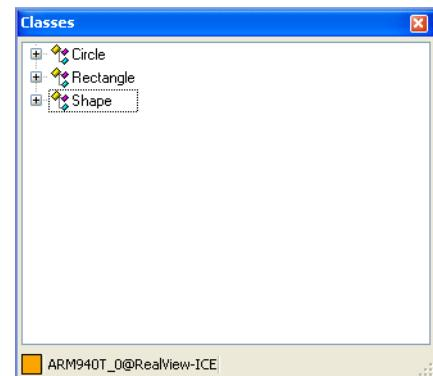

Figure 11-26 Classes view
1. Select **Classes** from the **View** menu to display the Classes view. Figure 11-26 shows an example: